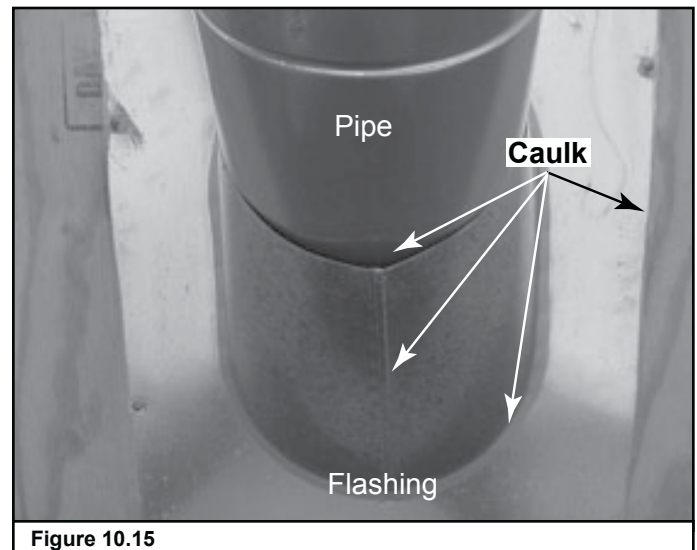

Figure 10.15
- Slide the roof flashing over the pipe sections extending through the roof as shown in Figure 10.15.
- Caulk the perimeter of the flashing where it contacts the roof surface. See Figure 10.15.